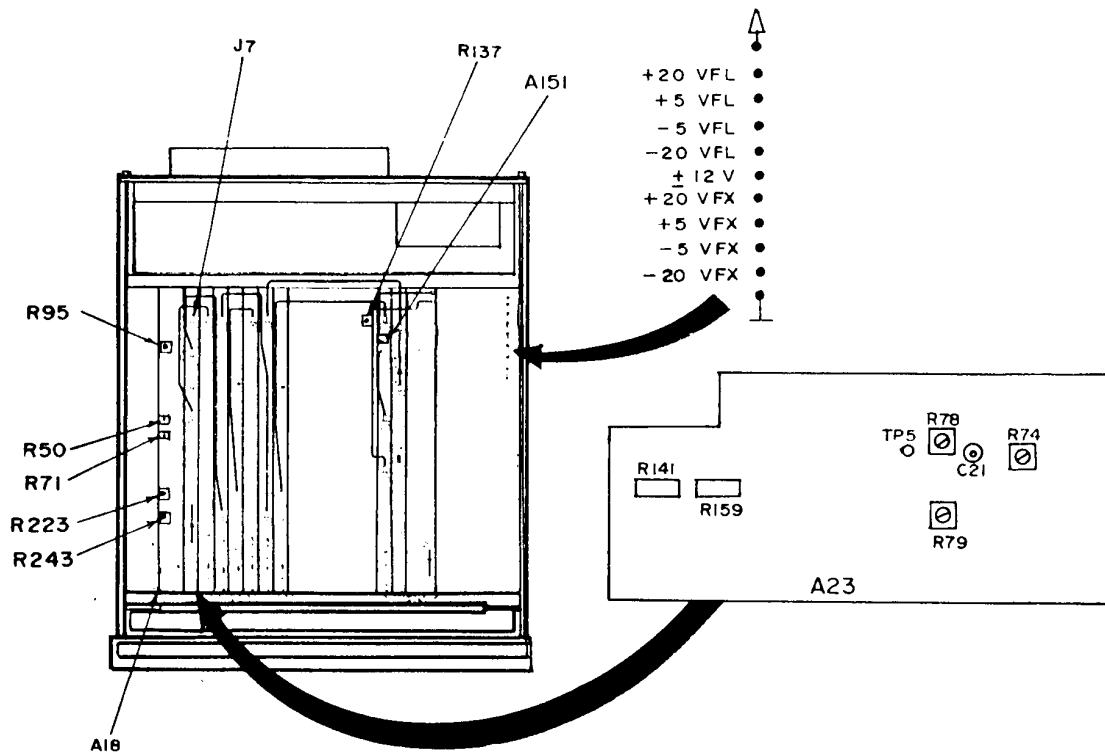

Figure 1. Test instrument - adjustment locations.
- (1) Press **ON/OFF** pushbutton to **OFF** position.
- (2) Remove A23 board (fig. 1) from TI and reconnect, using extender board.
- (3) Connect multimeter negative terminal to ground and positive terminal to TP5 (fig. 1).
- (4) Press **ON/OFF** pushbutton to **ON**.
- (5) Press pushbuttons and enter data as listed in (a) through (c) below:
- (6) Adjust R141 (fig. 1) for a $-5\text{ V} \pm 20\text{ mV}$ indication on multimeter (R).
- (7) Press **PERIOD** pushbutton and enter 99.9 ns. Adjust R159 (fig. 1) for a $-500\text{ mV} \pm 2\text{ mV}$ indication on multimeter.
- (8) Repeat (5), (6), and (7) above until voltages are within tolerance (R).
- (9) Disconnect cable A23 J7 (fig. 1) and connect frequency counter to J7 using cable #1.
- (10) Press **PERIOD** pushbutton and enter 999 ns. Adjust R141 (fig. 1) for a $999\text{ ns} \pm 3\text{ ns}$ indication on frequency counter (R).
- (11) Press **PERIOD** pushbutton and enter 100 ns. Adjust R79 (fig. 1) for a $99.5\text{ ns} \pm 0.3\text{ ns}$ indication on frequency counter (R).
- (12) Repeat (10) and (11) above until periods are within tolerance.
- (13) Press **PERIOD** pushbutton and enter 99.9 ns. Adjust C21 (fig. 1) for a $99.9\text{ ns} \pm 0.3\text{ ns}$ indication on frequency counter (R).
- (14) Press **PERIOD** pushbutton and enter 20 ns. Adjust R78 (fig. 1) for a $20\text{ ns} \pm 0.1\text{ ns}$ indication on frequency counter (R). Repeat (13) above.
- (15) Press **PERIOD** pushbutton and enter 20 ns. Record frequency counter indication.
- (16) Press **PERIOD** pushbutton and enter 35 ns. Record frequency counter indication.
- (17) Calculate relative error of values recorded in (15) and (16) above.
- (18) If error at 20 ns is higher, press **PERIOD** pushbutton and enter 20 ns. Adjust R78 for a $20\text{ ns} \pm 0.2\text{ ns}$ indication on frequency counter (R).
- (19) If error at 35 ns is higher, press **PERIOD** pushbutton and enter 35 ns. Adjust R74 (fig. 1) for a $35\text{ ns} \pm 0.3\text{ ns}$ indication on frequency counter (R).
- (20) Repeat (15) through (19) until period at 20 and 35 ns are within ± 1.5 percent of setting.
- (21) Press **PERIOD** pushbutton and enter 99.9 ns. Adjust C21 for a $99.9\text{ ns} \pm 0.3\text{ ns}$ indication on frequency counter (R).
- (22) Press **ON/OFF** pushbutton to **OFF**.
- (23) Remove extender board and reconnect A23 board to TI.
- (24) Replace TI top cover. Press **ON/OFF** pushbutton to **ON** and allow TI to warm- up for 20 minutes. Repeat **8 a** above. It may be necessary to repeat this adjustment procedure.